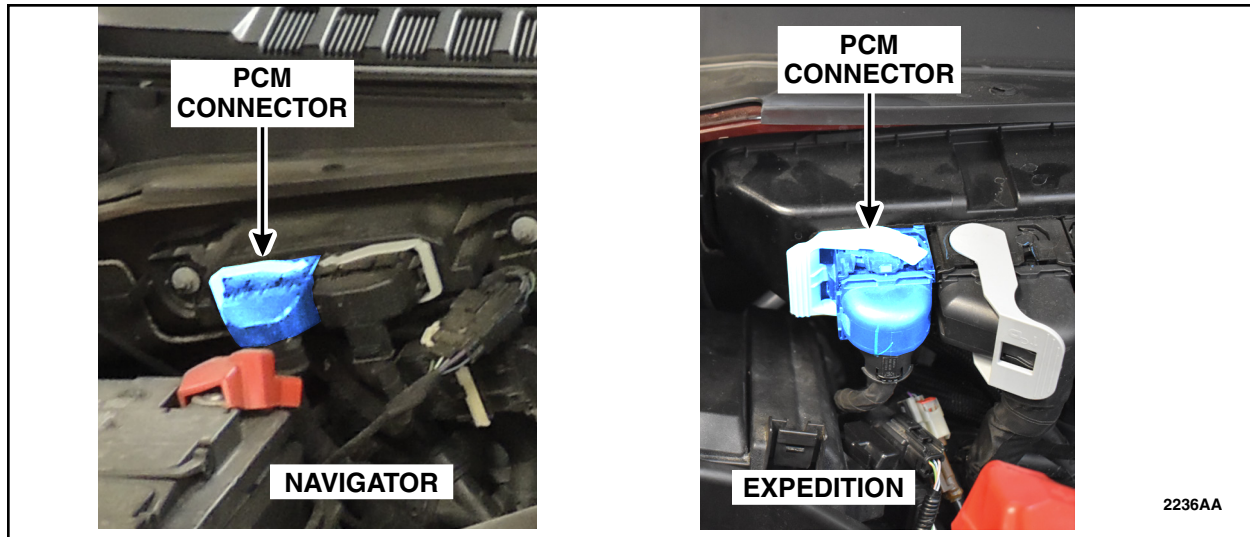

FIGURE 7
8. Disconnect the outboard Powertrain Control Module (PCM) electrical connector. See Figure 7.